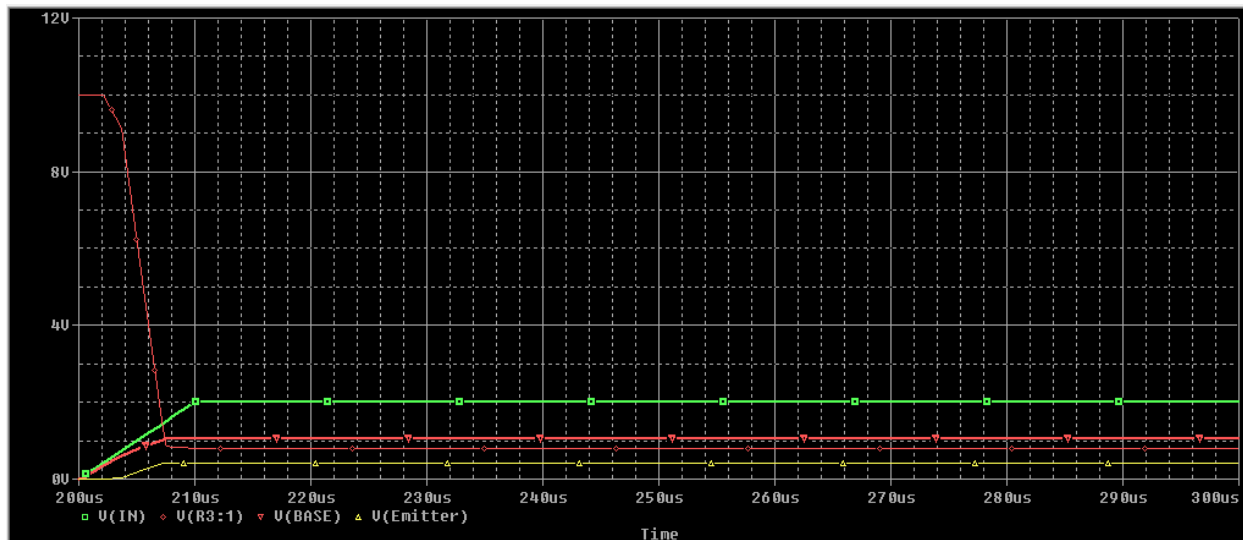

Figure 2-50: Simulation Restart Results from 200us
82. Simulate the design (click 'Yes' to save). Simulation results in Figure 2-50 show the resulting waveforms ranging from the 200us check point to 300us.